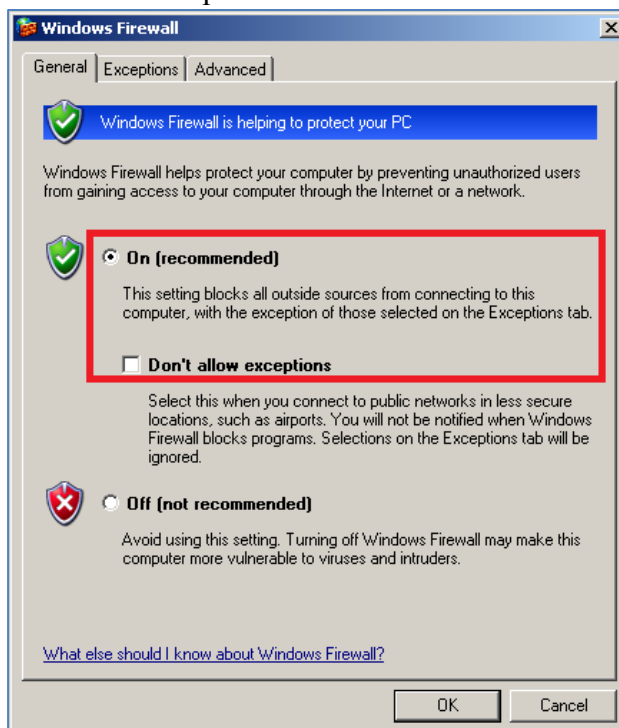

Figure 8.1.1-3: The **Windows Firewall** window
- Click the **Add Port...** button on the **Exceptions** tab of the **Windows Firewall** window. The **Add a Port** window (Figure 8.1.1-4) will appear. Enter the following information and click **OK**: